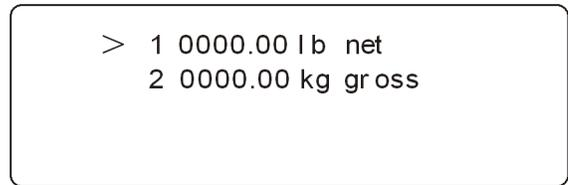

FIG. 7 SUMMARY DISPLAY/2 CHANNELS
- The AC power should be supplied by a “clean” primary line, directly from the power panel. This line should not supply any other equipment, including the feeding unit, and should be supplied with a minimum 10 amp breaker. (See Fig. 7)
- J1-2 Line (HI)
- Step 3. The Instrument boots up to the Summary Screen which will display 1, 2 or 4 Channels. (See Figs. 7 & 8)